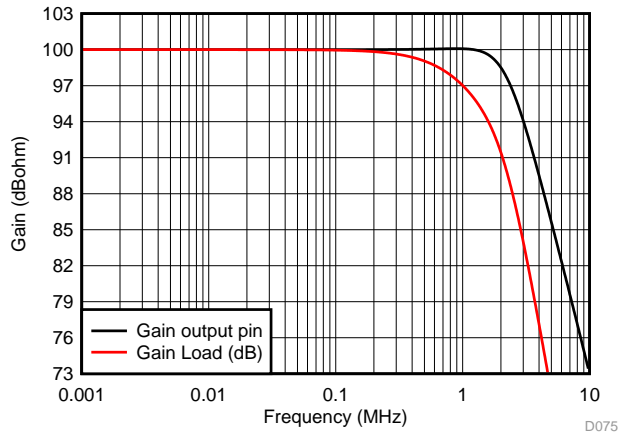

图 81. Small-Signal Response for 100-kΩ Transimpedance Gain
- Assume a nominal source capacitance value of 100 pF. This normally comes from the capacitance versus reverse bias plot for the photodiode. No reverse bias is illustrated in 图 81, but the current source is typically a back biased diode with a negative supply on the anode and the cathode connected to the op amp inverting input. In this polarity, the signal current sinks into the diode and raises the op amp output voltage above ground.
Implementing this design and simulating the performance using the TINA model for the response to the output pin and to the final capacitive load shows the expected results of 图 81. Here the exact 2.2-MHz flat Butterworth response to the output pin is shown with the final single pole rolloff at 1 MHz at the final 2.2-nF capacitor.